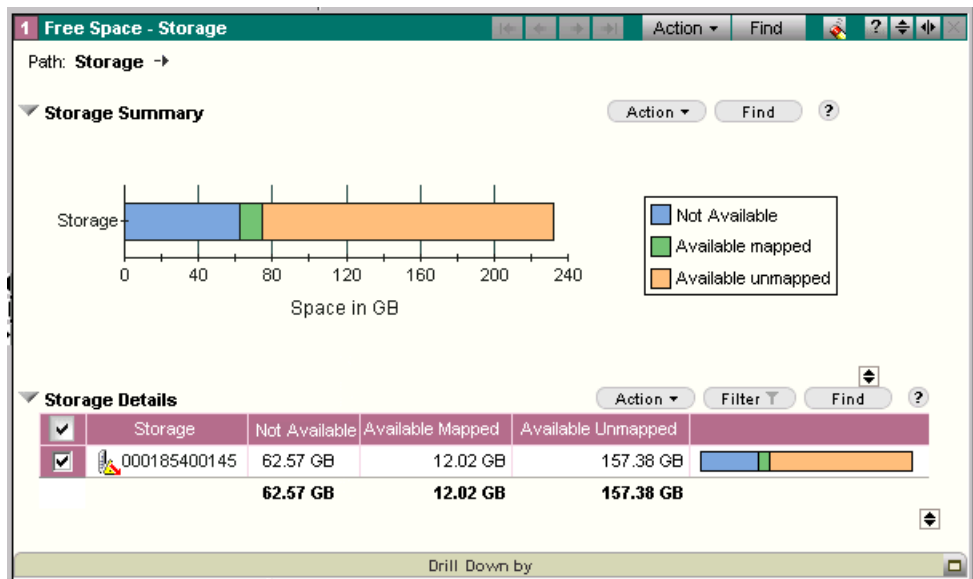

Figure 10-2 Free Space View
3. Select **Free Space** from the Storage Allocation task menu. The Free Space view appears (Figure 10-2).